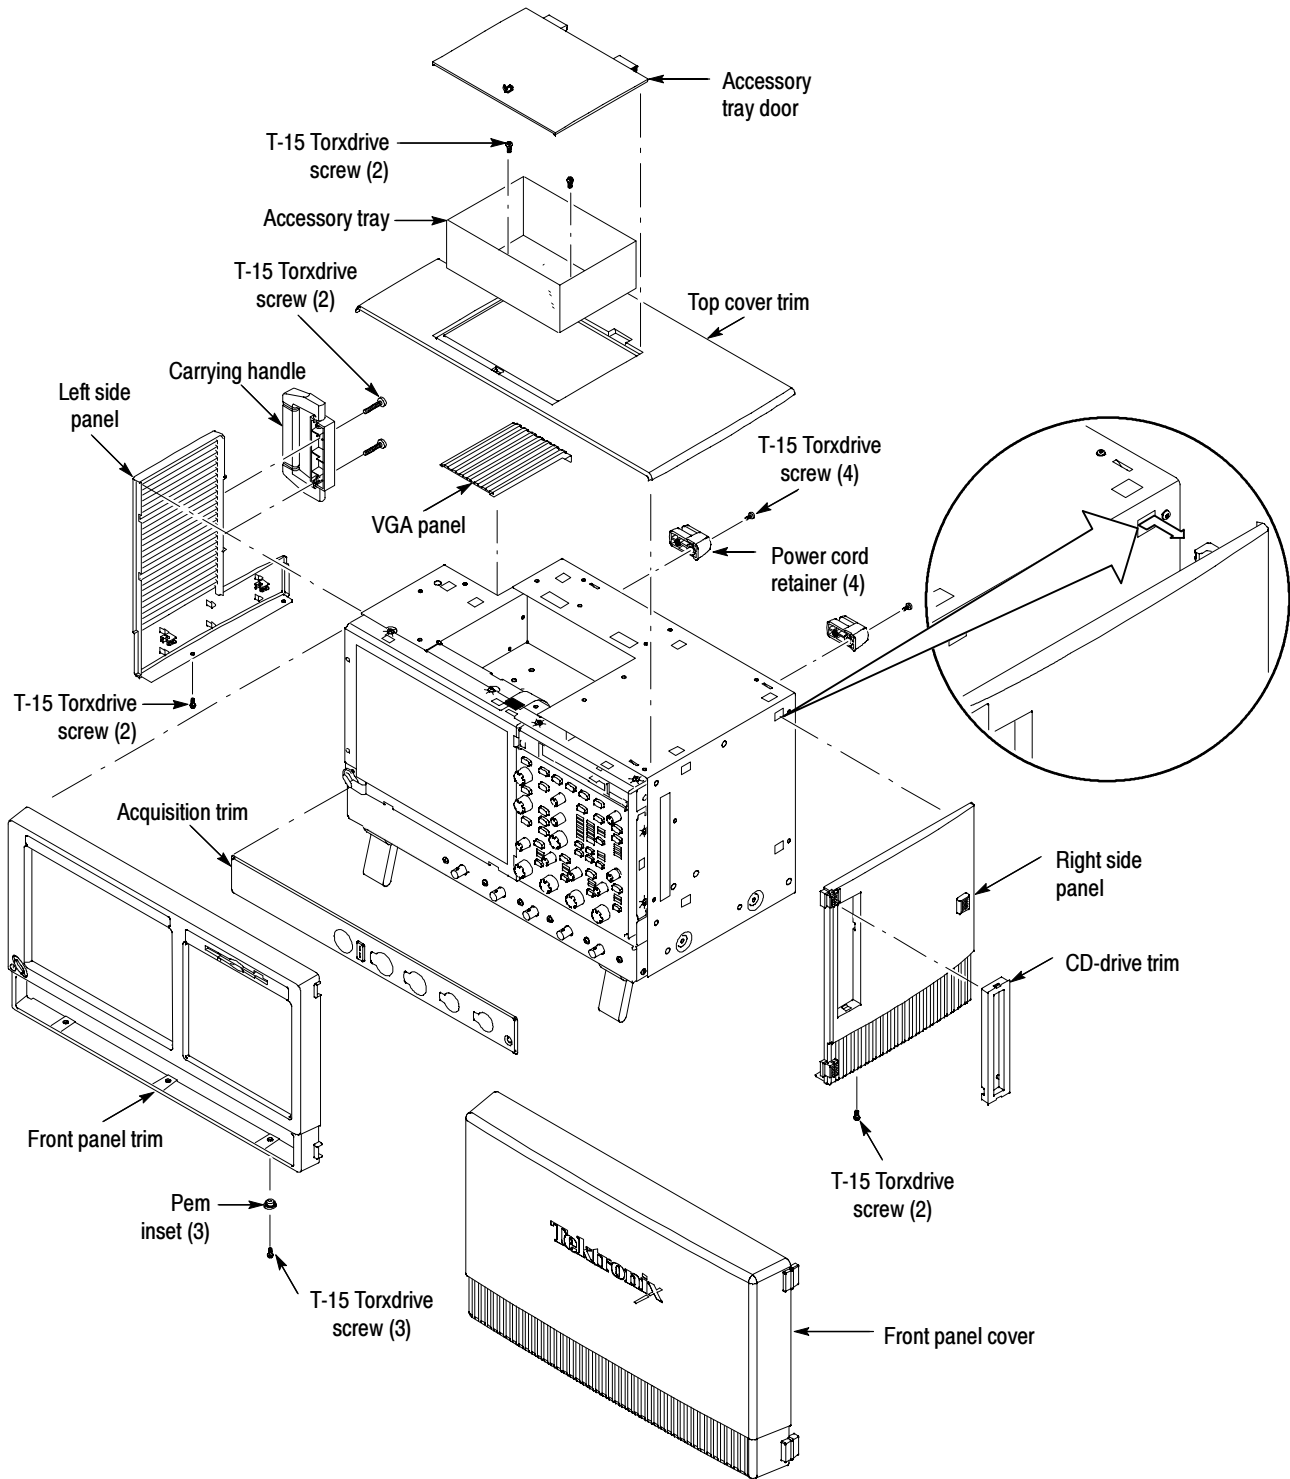

Figure 1: Trim removal
- b. Remove the three T-15 Torxdrive screws that secure the front panel trim to the oscilloscope. See Figure 1, on page 8.